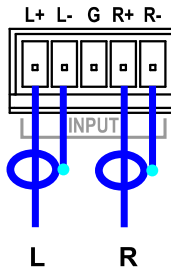

Figure 8: Connecting an Unbalanced Stereo Audio Input
- An unbalanced stereo audio input, see *Figure 8*